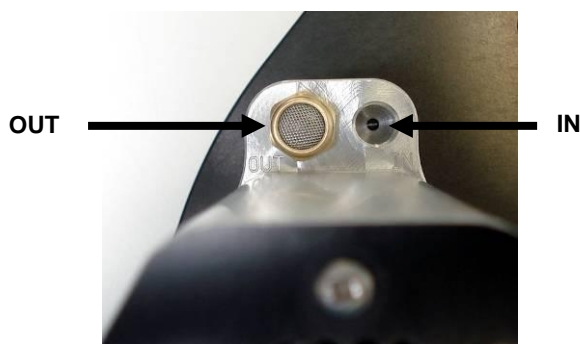

Fig. 1
2. Connect compressed air supply to connection labeled '**IN**' located at actuator, see Figure 1 below.
Connect compressed air return line connection labeled '**OUT**' located at actuator, see Figure 1 below.